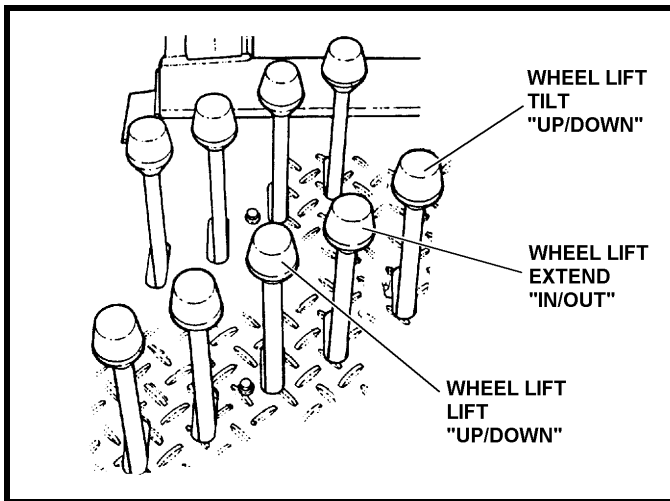

FIGURE 3A.1
- 3A.1** Each function of the FORMULA III Wheel Lift can be controlled from either of the dual Control Stations located at the rear of the wrecker body. See Figure 3A.1.